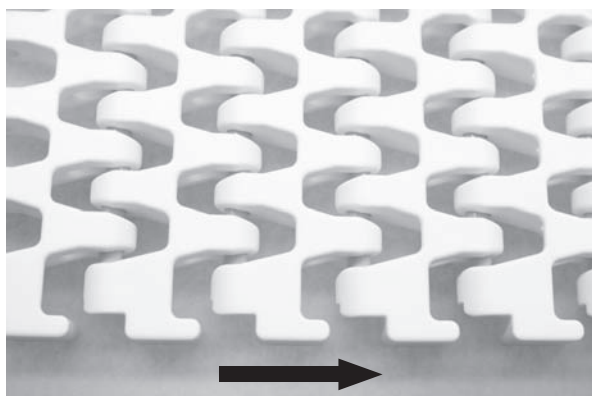

Figure 41
*Ensure the belt is running in the correct direction (**Figure 41**).*